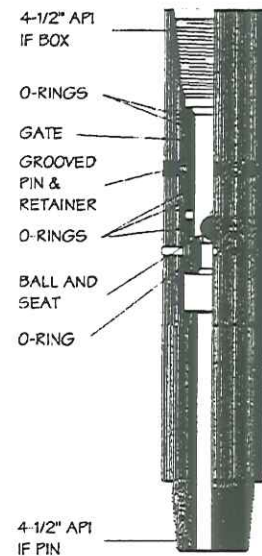

Figure 8. Lockdown Sleeve Test Sub
1. Refer to the **Figure 8** for identification of the Lockdown Sleeve Test Sub (Test Sub) components. Record the part number and serial number of the Test Sub for the permanent well file.